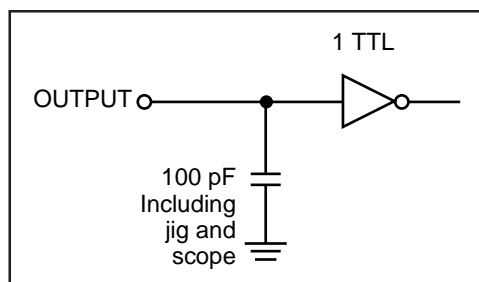

Figure 1
1. Test conditions assume signal transition times of 5 ns or less, input pulse levels of 0.4V to 2.2V and output loading specified in Figure 1.
Output Load	See Figures 1 and 2